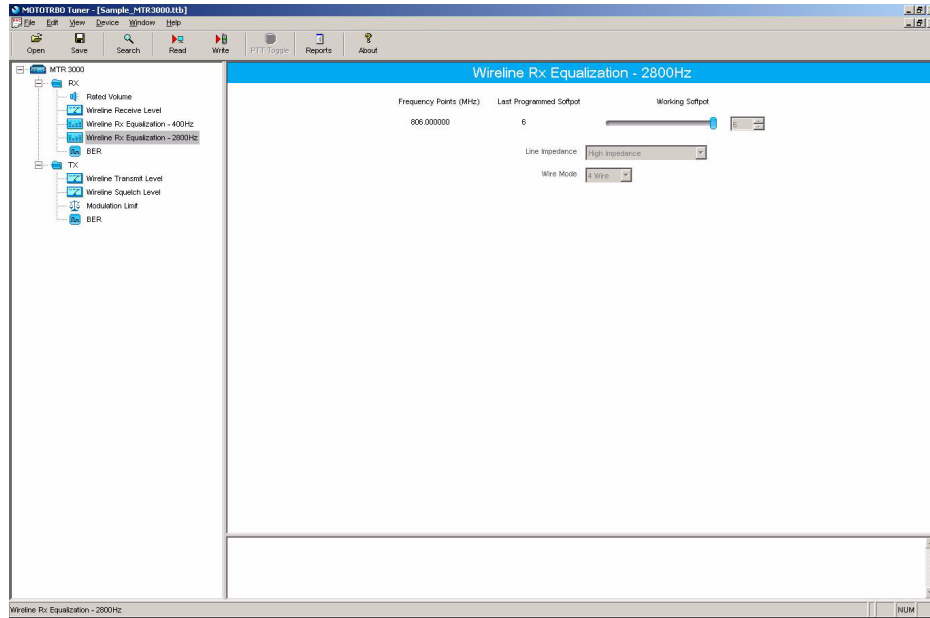

Figure 13-7 Rx Menu tree (Wireline Rx Equalization – 2800 Hz)
4. Select “Wireline Rx Equalization – 2800 Hz” under the Rx menu in the tree view (Refer to Figure 13-7).